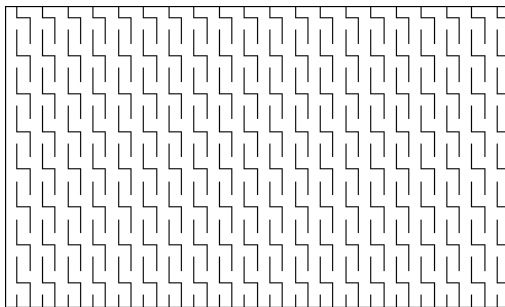

**Figure 31-11:** The lightning hatch pattern.
10. Choose Select Objects and pick the rectangle in your drawing. Press Enter. Click OK. The rectangle fills with the lightning hatch, as shown in Figure 31-11.